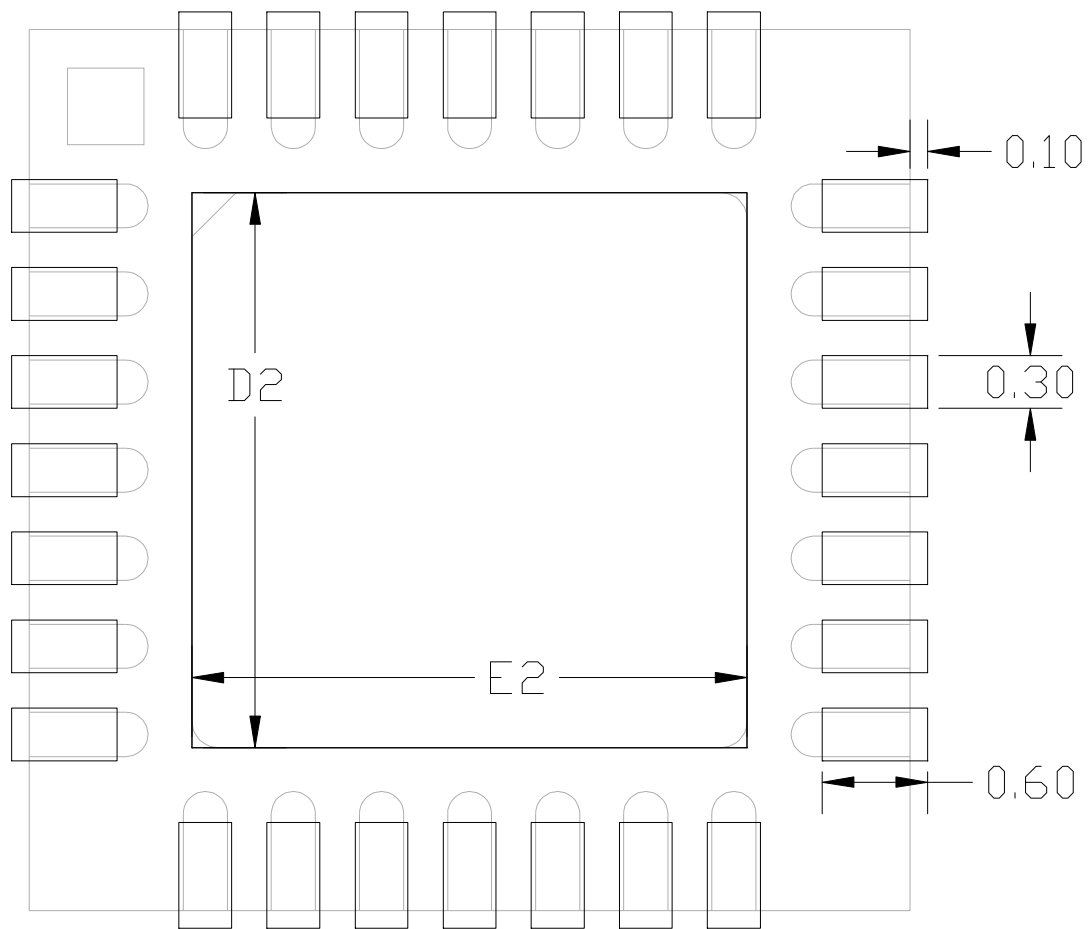
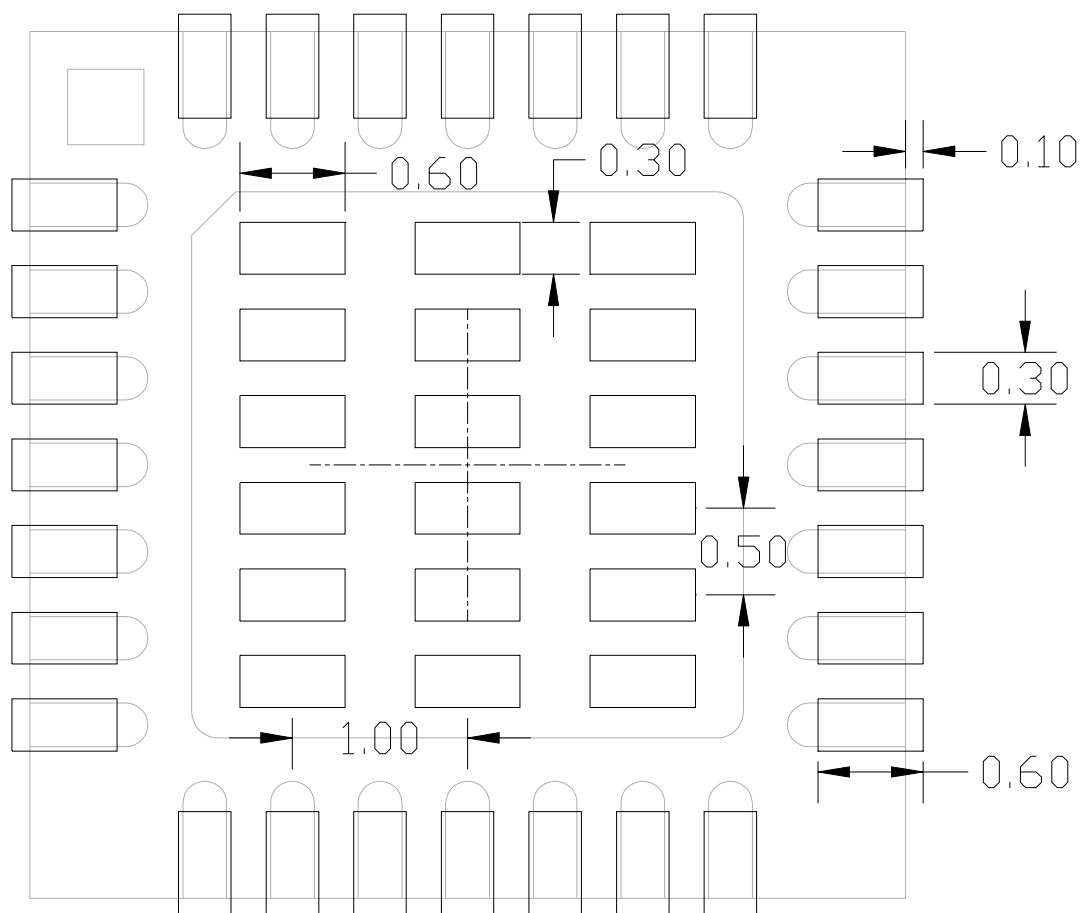

Figure 4.3. Typical QFN-28 Landing Diagram
Figure 4.4. Typical QFN-28 Solder Paste Recommendation
- Updated package drawings in Figure 4.2, Figure 4.3, and Figure 4.4.
- Changed Figure 4.4 title.